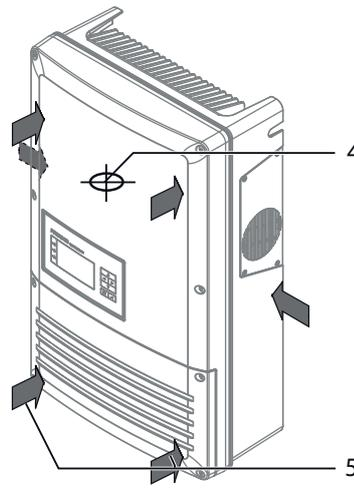

Figure 9: Lift the inverter
5. Lift the inverter to the intended positions (see Figure 9).